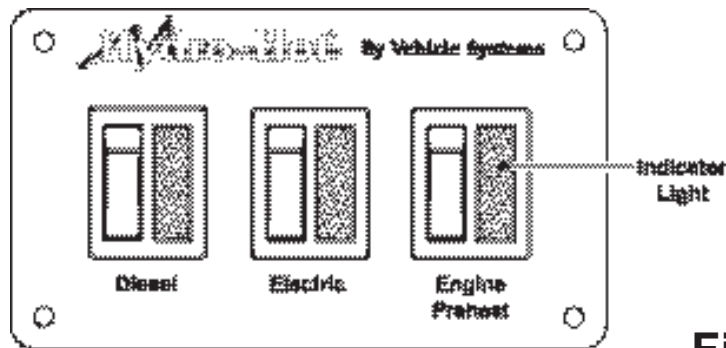

Figure 2
Turn the Diesel switch ON, reference Figure 2. This procedure will activate the Diesel-Burner and the indicator light located on the Diesel switch. Allow 10-20 minutes for the Hydro-Hot System to reach operating temperature. Please note that the Diesel-Burner is the primary heat source for heating both the interior and the domestic hot water (such as when cool ambient temperatures exist and/or when there is a high demand for domestic hot water).
Turn the Electric switch ON, reference Figure 2. This procedure will activate the 120 VAC Electric Heating Element and the indicator light located on the Electric switch. Allow 1-2 hours for the Hydro-Hot System to reach operating temperature.
A. Turn the Hydro-Hot's Engine Preheat switch ON, reference Figure 2. This procedure will activate the Engine Preheat Circulation Pump and circulate the engine's coolant through the Engine Preheat System. This feature will adequately warm the engine for easy start-ups on cool mornings.